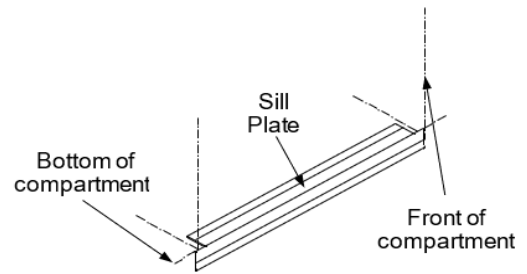

Fig. 3
- Place the sill plate in the center of the bottom compartment. The notches should be on the top as shown in Fig. 3.